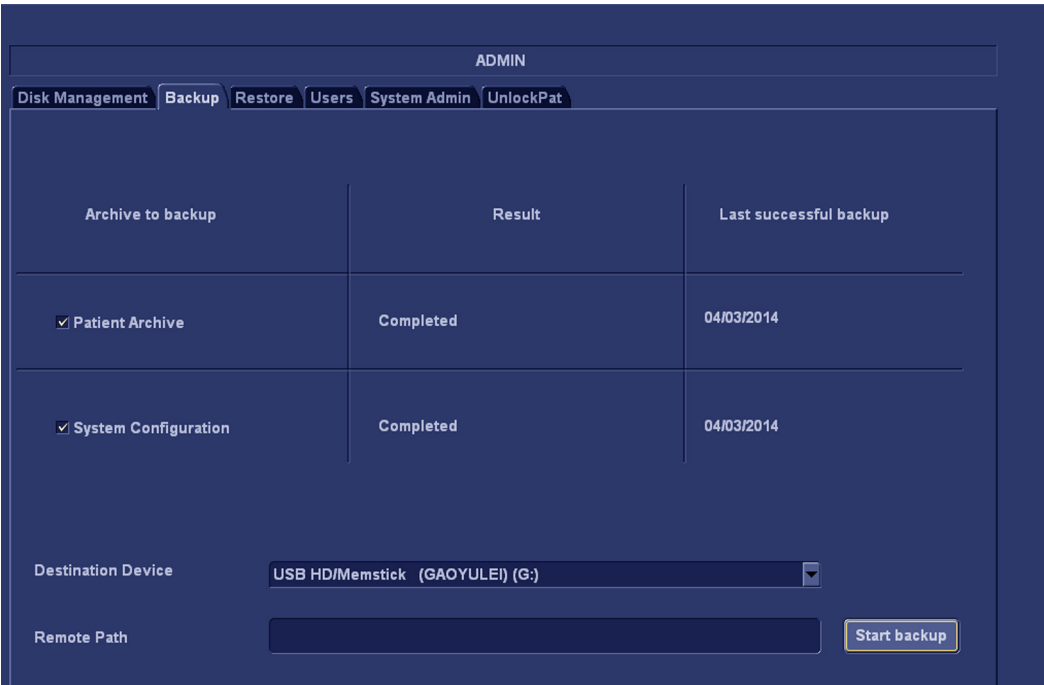

Figure 4-3. Backup Sheet
2. Access to the Config/Admin Menu, and select Restore. The Restore sheet will be shown on the LCD display. See Figure 4-3 on page 4-12.